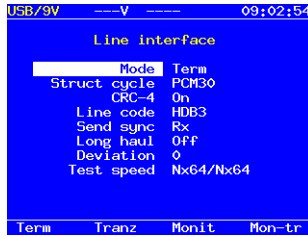

Figure 8.2. "Line interface" menu
8.2.1. To access **Line interface** section, in the Main menu highlight the menu point and press . Line interface menu screen is shown on Figure 8.2.